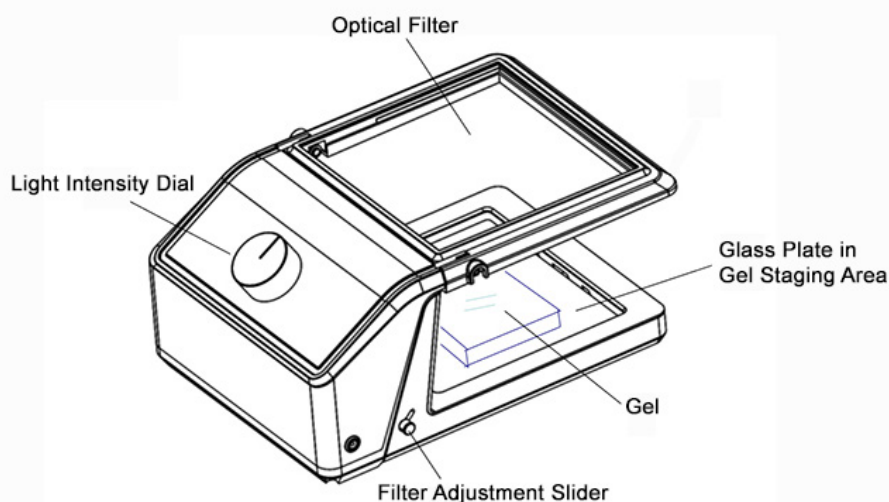

Figure 2. Diagram of Gel-Bright™ Laser Diode Gel Illuminator.
3. Turn on the Gel-Bright™ device and turn the Light Intensity Dial clockwise (Figure 2) until the desired light intensity is attained.
5. The gel can be photographed through the filter with a regular camera. If desired, the amber filter may be positioned close to the gel to obtain a better image (see Figure 1A). To adjust the position of the filter, slide the filter adjustment slider (Figure 2) up at a 45° angle towards the filter, and then lower the filter.